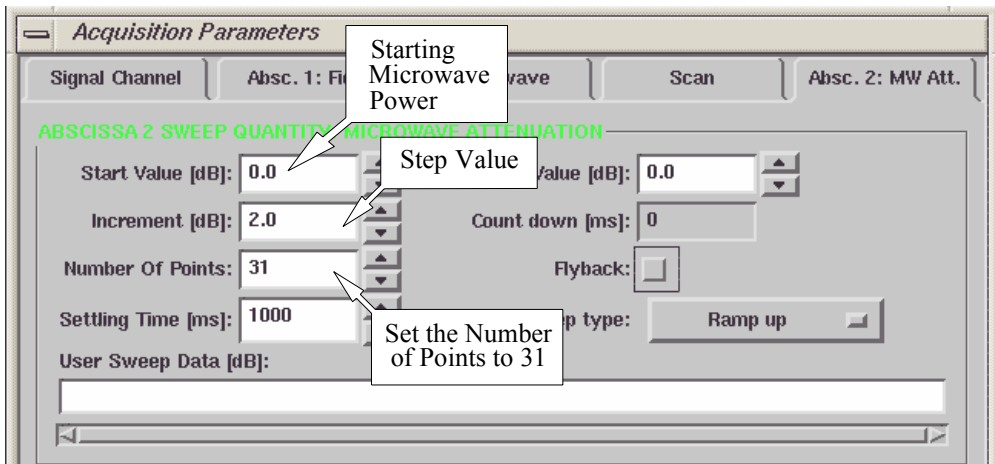

Figure 5-48 Sample parameter settings of Absc. 2: MW Att. for acquiring a 2D dataset.
7. **Set the Abscissa 2 parameters.** Click Absc. 2: MW ATT. Set the Start Value to 0 db, Increment to 2 db, Number of Points to 31. This setting allows you to acquire a 2D spectrum of total 31 slices with a step size of 2 dB in microwave power. The **Settling Time** is a delay to wait for the instrument to stabilize. Select a sufficiently long settling time to stabilize the acquisition environment. We use 1000 ms in this example. (See Figure 5-48.)